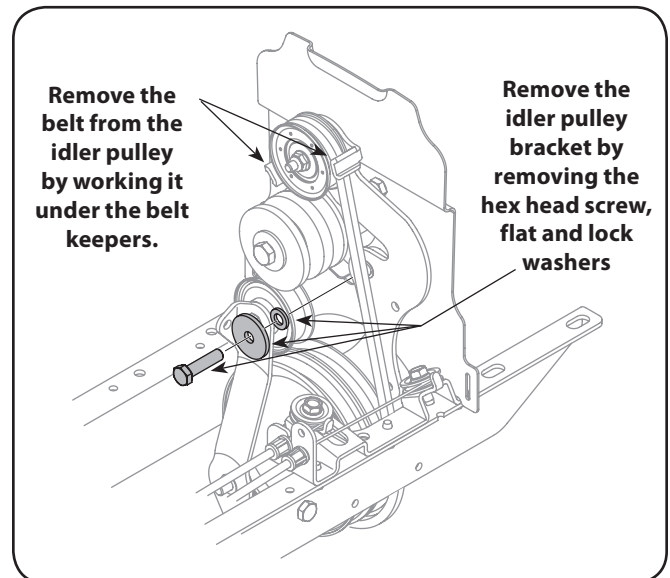

Figure 7-4
5. Remove the idler pulley bracket by removing the 5/16-24 hex head screw, flat washer and lock washer, as in Fig. 7-4.